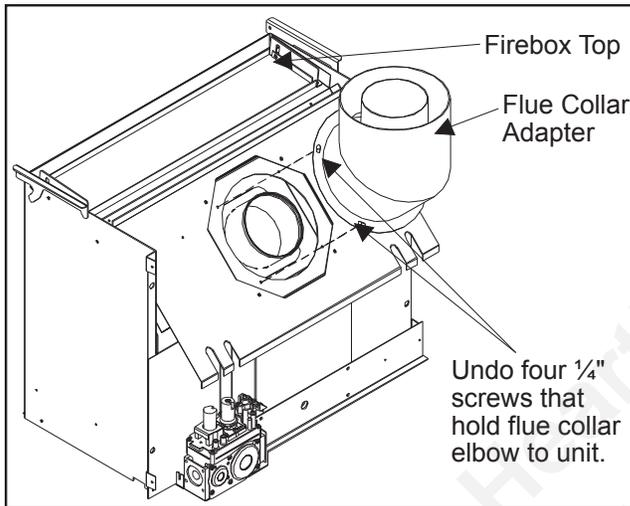

Figure 40: Step 3 of Converting Top Vented into Rear Vented.
2. Remove the four (4) ¼" screws that hold the flue collar elbow to the unit body (see Figure 40).